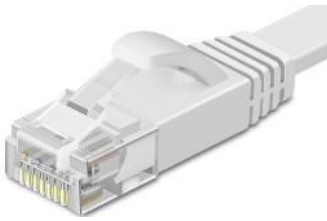

Fig. 18
1. The Titan comes with an ethernet cable(see Fig. 18).